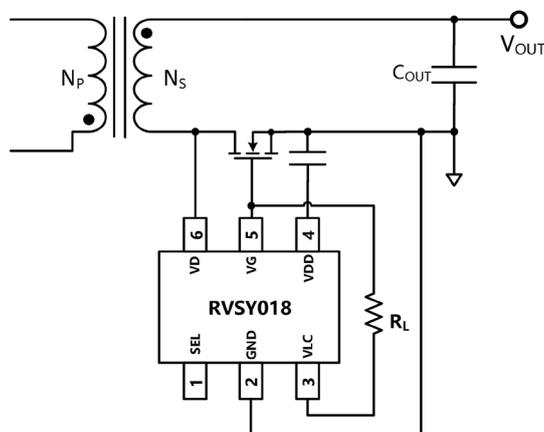

Fig. 13
② If the SR MOSFET has a low threshold voltage, particularly when $R_{DS(ON)}$ is very small, it may experience premature turn-off under light load conditions. To mitigate this, a resistor R_L can be connected between the VG pin and the VLC pin, as illustrated in Figure 13, to intentionally reduce the gate drive voltage. This adjustment helps maintain conduction without premature shutdown. Under these conditions, the relationship between V_G and V_{DS} during the voltage-limited conduction stage is defined as: